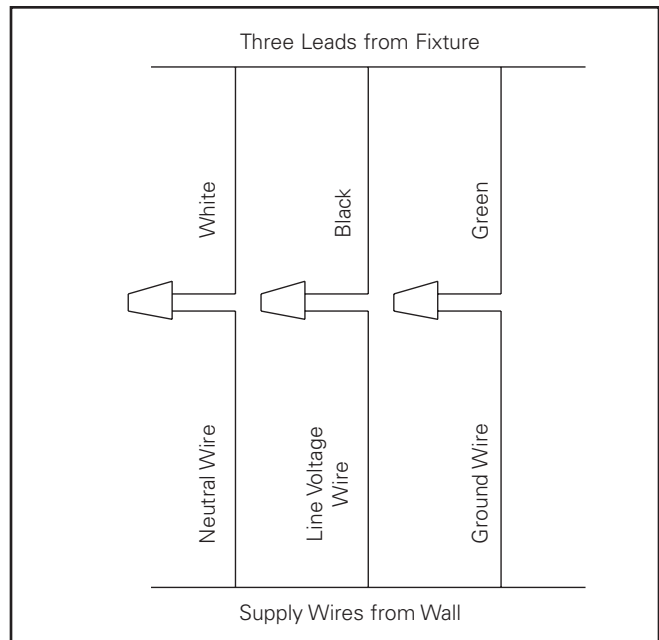

Figure 22.
10. Connect supply wires to appropriate luminaire leads. (Figure 22.)